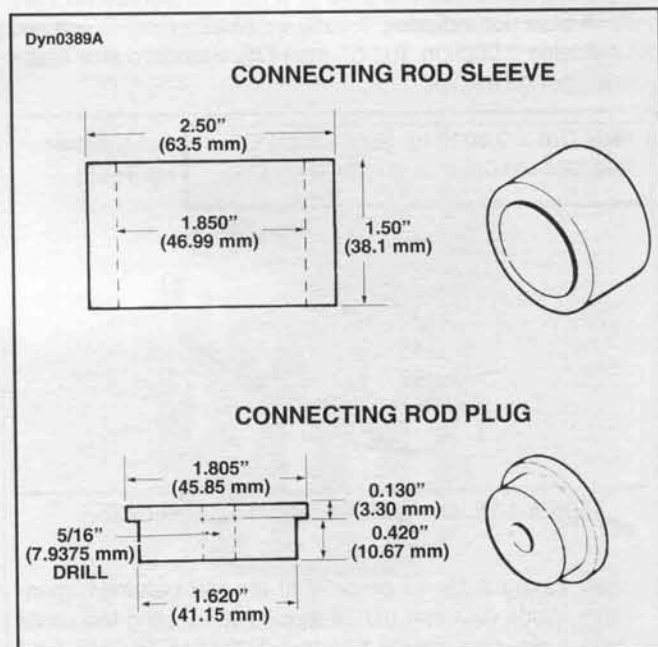

Figure 3-80. Manufactured Tools for Pressing Connecting Rod Bearing And Pinion Outer Races
1. See Figure 3-80. Make a plug and sleeve to the dimensions shown.